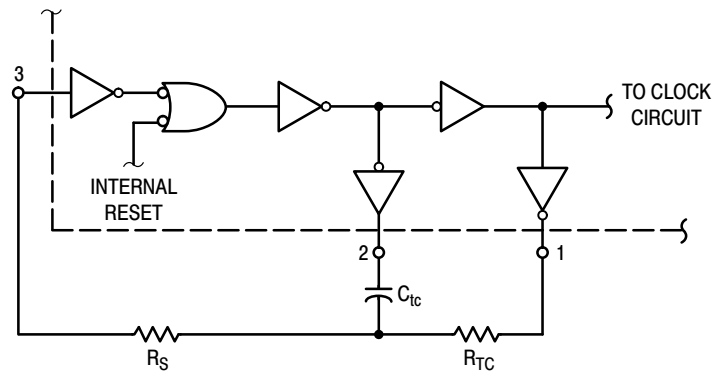

Figure 3. Oscillator Circuit Using RC Configuration
5. When using the on chip oscillator the total supply current (in μAdc) becomes: I_T = I_D + 2 C_{tc} V_{DD} f x 10⁻³ where I_D is in μA, C_{tc} is in pF, V_{DD} in Volts DC, and f in kHz. (see Fig. 3) Dissipation during power-on with automatic reset enabled is typically 50 μA @ V_{DD} = 10 Vdc.
The RC oscillator as shown in Figure 3 will oscillate with a frequency determined by the external RC network i.e.,